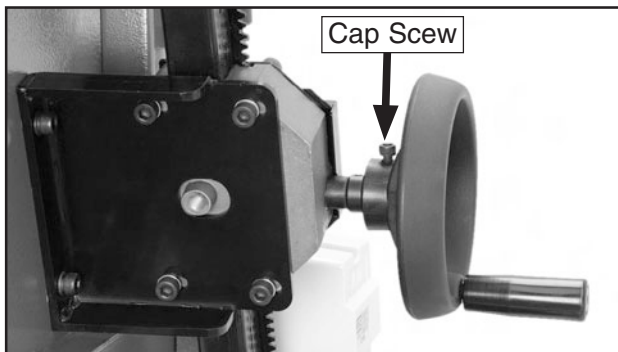

Figure 28. Table tilt handwheel installed.
5. Secure the table tilt handwheel onto the flat part of the handwheel shaft with the included cap screw (Figure 28).